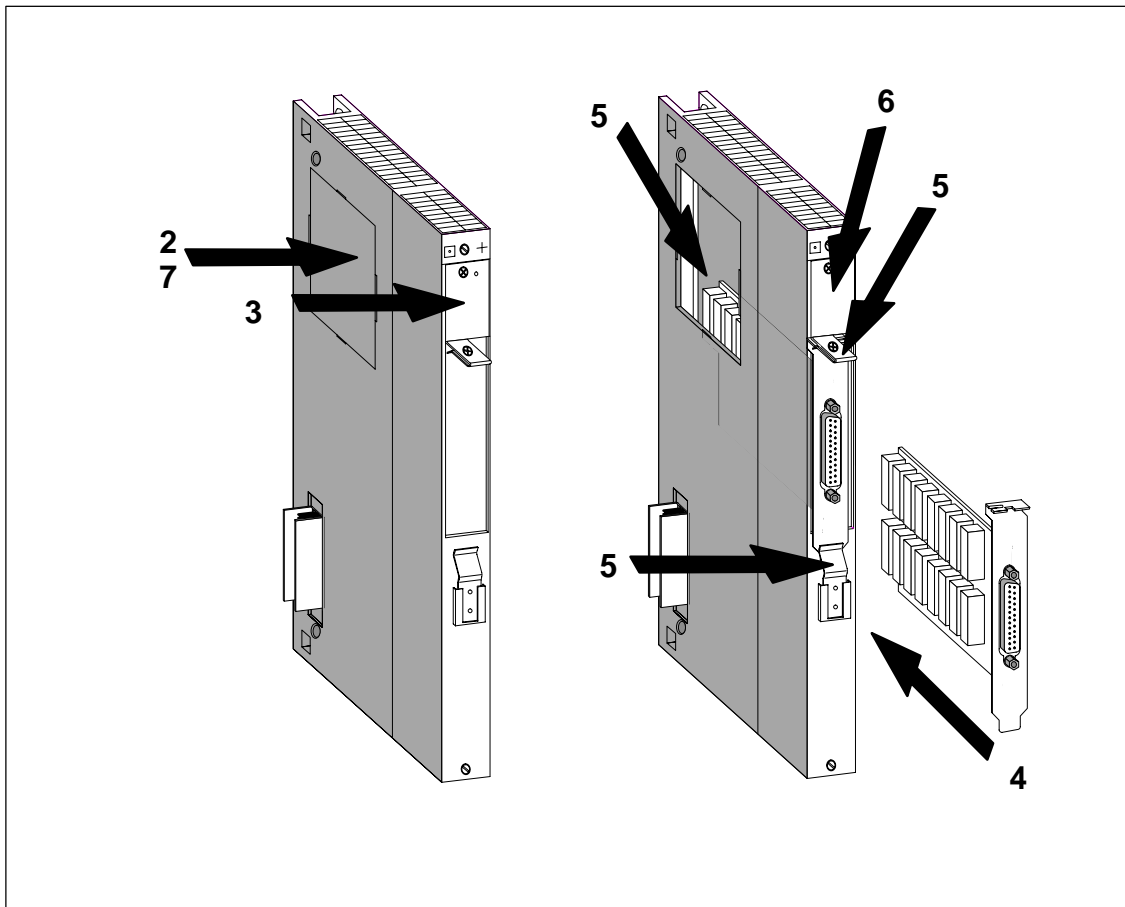

Figure 8-4 Fitting an AT Card in the ATM 478 AT Adapter Module
2. Remove the cover from the upper left side of the ATM 478 (see Figure 8-4).
3. Remove the mounting bracket for the AT module from the upper front of the ATM 478 (see Figure 8-4).
4. Insert the AT card into the slot from the front (see Figure 8-4).
5. Press the AT card through the side opening and at the front downward into the ISA bus connector until it engages. Ensure that the support plate of the AT card slides under the metal spring on the front of the ATM 478 (see Figure 8-4).